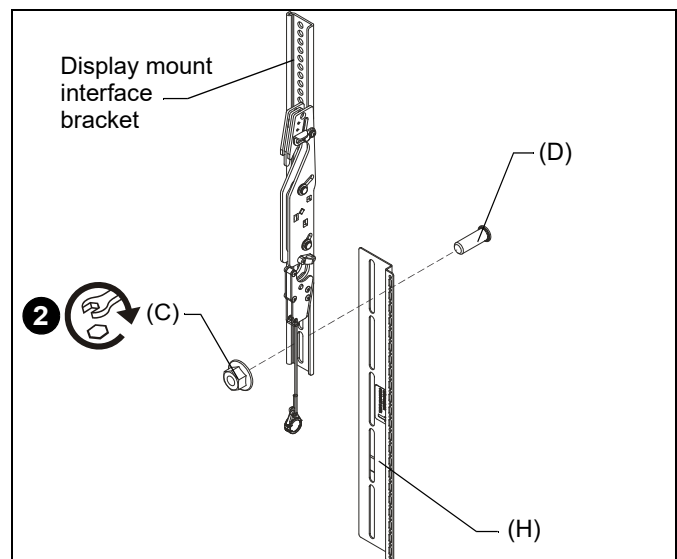

Figure 3
2. Connect the mounting bracket (H) to the desired point on the display mount interface bracket with one PEM stud (D) and flange nut (C). (See Figure 3)